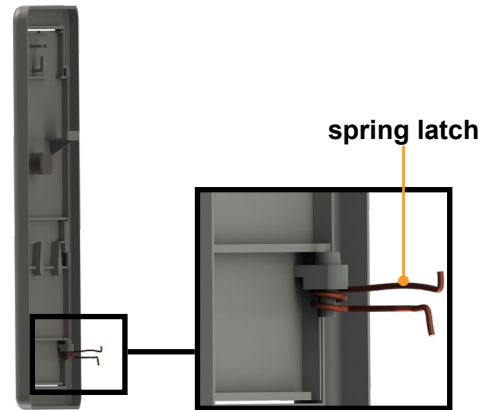

Fig.3
1. Locate spring latch on the interior side of the enclosure door (Fig.3).